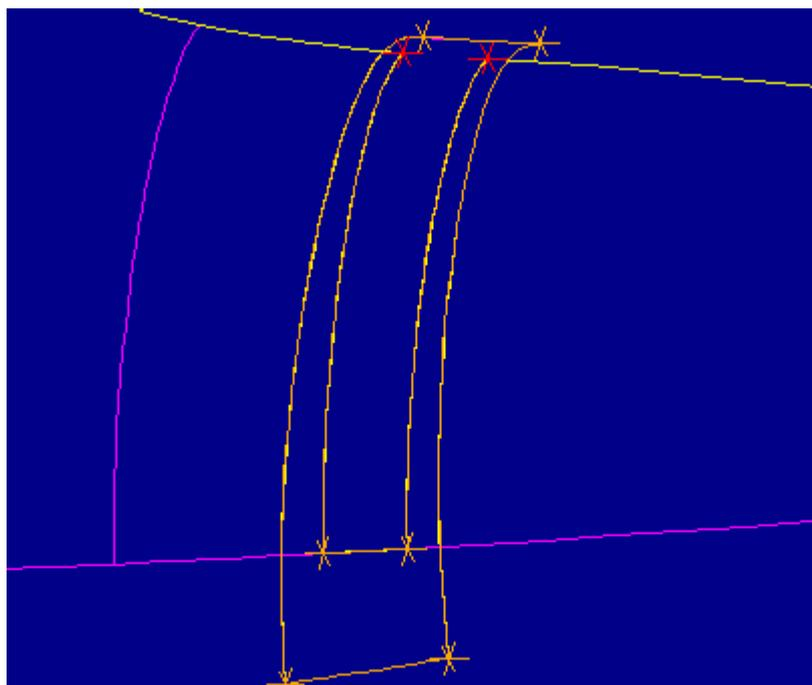

Figure 13
10. In the EDIT BNDRY menu select **Create, Project**. Figure 13 shows three edges highlighted in blue that will be projected onto the untrimmed surface.
11. In the GET SELECT menu select **Done Sel** to create the inner chain of orange edges shown in Figure 13.